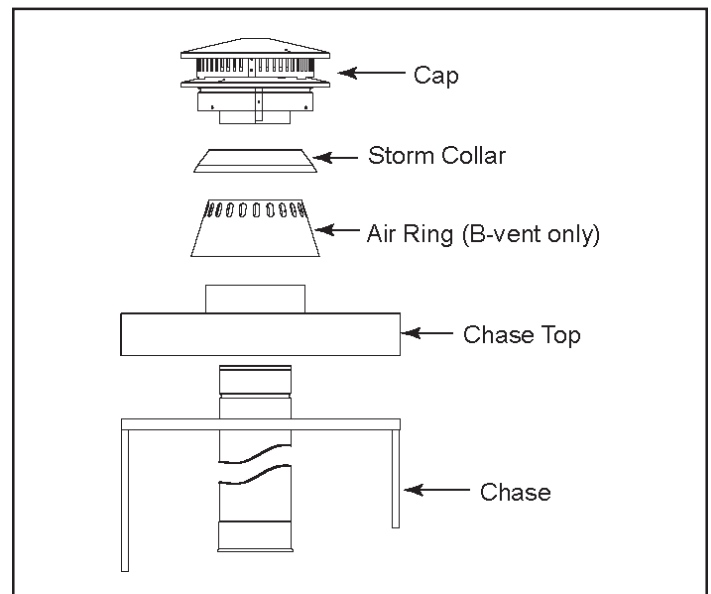

Figure 5 - Storm Collar & BV Cap
- After you adjust the air ring to fit the pipe, slide it down over the pipe to cover the collar and set on the chase top. See Figure 5.
- Install the storm collar and B-Vent cap. See Figure 5.